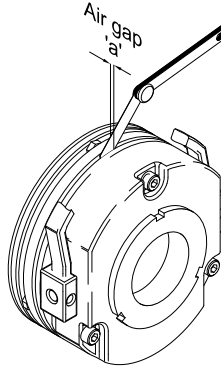

Figure 47 – Checking Traverse Brake Air Gap
The air gap 'a' (between the stator (5) and the armature plate (1)) should be checked in at least three positions around the circumference of the brake using non-magnetic feeler gauges (see Figure 47). The air gap should not exceed the maximum air gap of **0.6mm**.